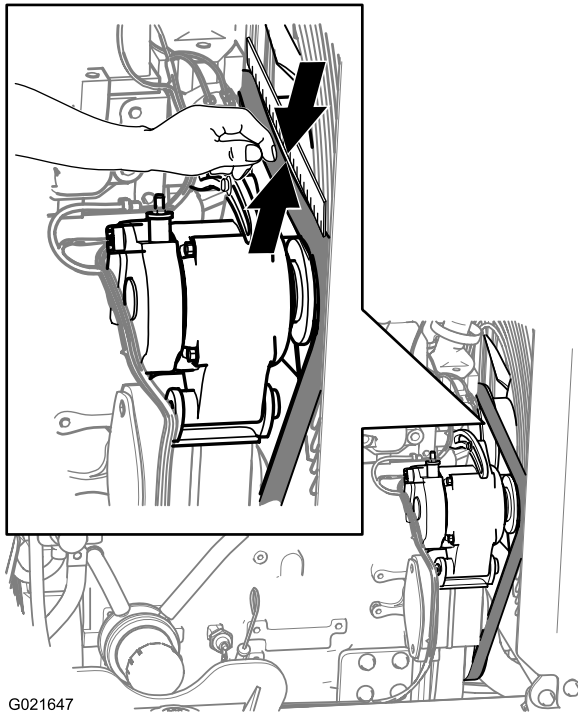

Figure 142
3. Inspect the belt for cuts, cracks, loose cords, grease, oil, twisting, or signs of abnormal wear (Figure 142).
3. Align a straight edge over the drive belt and across the pulleys as shown in Figure 142.
4. Press the belt down at the midway point between the fan pulley and the alternator pulley as shown in Figure 142.